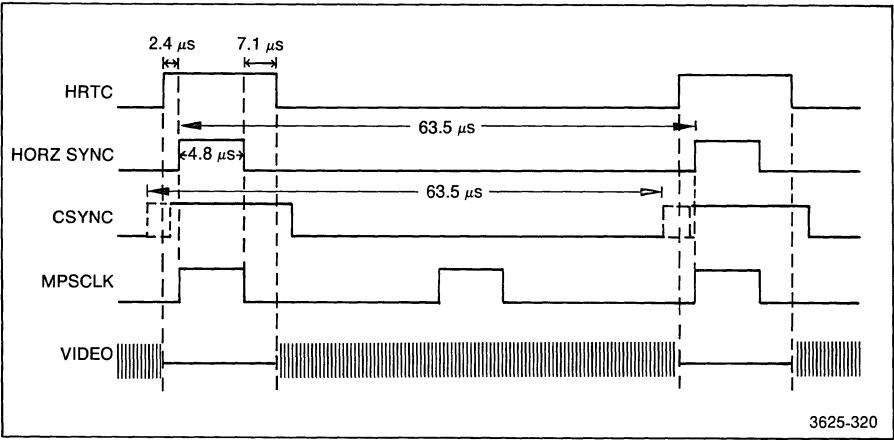

Figure 4-24. Horizontal sync timing for the color monitor.
HRTC(H) creates the first MPSCLK through inverters U603A and U603C, and AND gate U300A. At the same time, HORIZ SYNC(H) loads counters U500 and U600. When the count reaches 10 0000 binary, pin 2 of U405 goes high, allowing U515 to clock out a MPSCLK in between the clock pulses of either HORIZ SYNC(H) or CSYNC(H) (see Figure 4-24).
The S100 switches (1,2, and 3) determine the number of counts U521 will count before CSYNC(H) is clocked out. (see Figure 4-24)